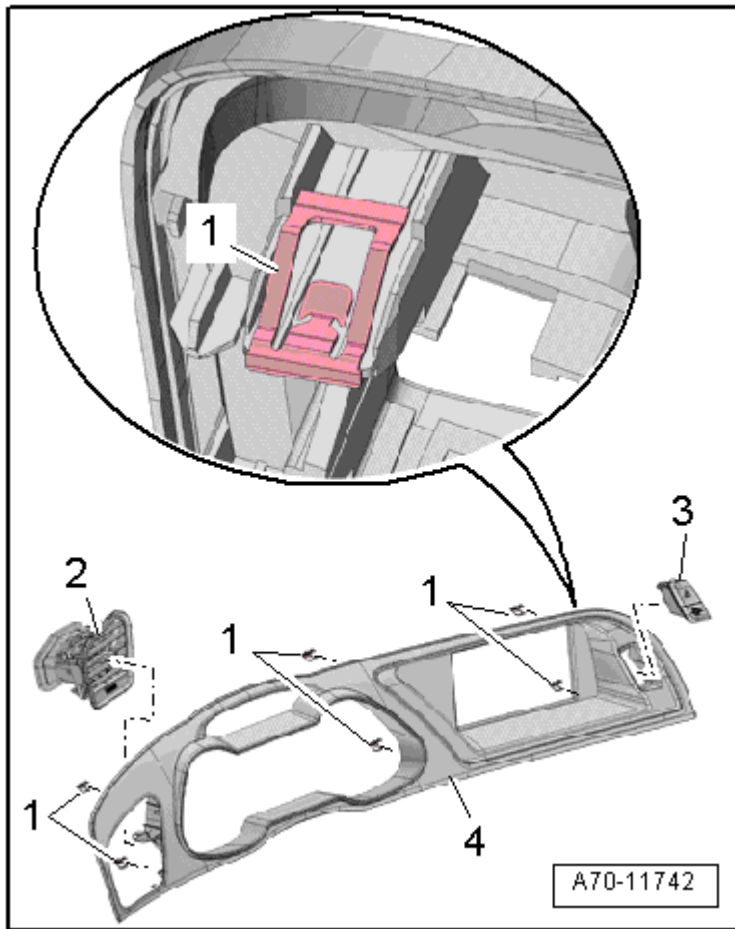

Fig. 8: MMI Screen Cover - From MY 12
- From MY 12, refer to **Fig. 8**